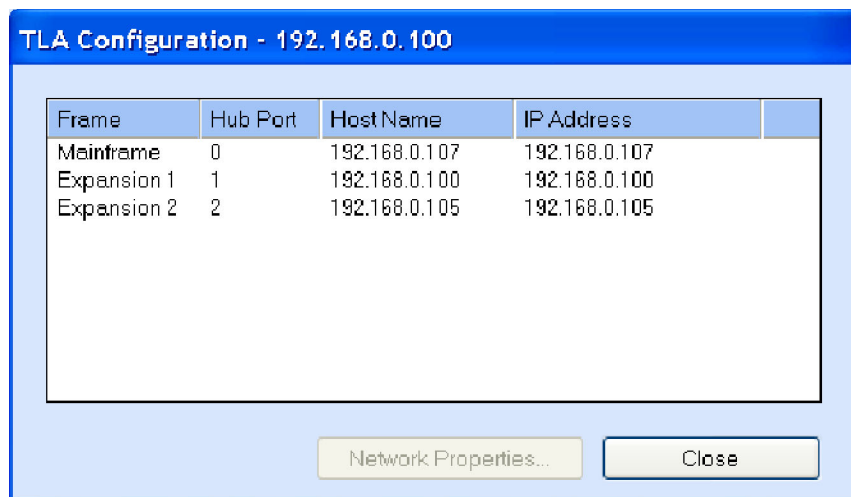

Figure 27: Instrument search results
- Click the Configuration icon and verify that the system is configured as you intended. Note that in systems with three or less benchtop mainframes, physically merged modules are not automatically established as a merged set until you merge them through software. (See Figure 27.)